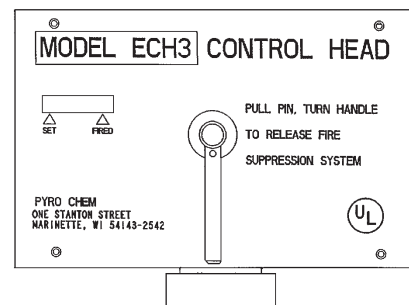

Figure 2-5. Electric Control Head.
- ▶ The Model ECH3 electric control head is an electrically operated control head which can be connected to the PCL-240/350/550 cylinder valve. This control head will support an electric thermal detection system, a remote mechanical pull station (Model RPS-M), and a mechanical or electric gas shutoff valve. It will not support a fusible link detection system. A miniature electric switch (Model MS-DPDT) is included. The Model ECH3 control head is available in both 120 VAC (Model ECH3-120) and 24 VDC (Model ECH3-24). It is equipped with a local manual control handle that allows for mechanical system actuation. Operation of the local manual control requires removing the pull pin and rotating the handle clockwise. The Model ECH3 control head can actuate a maximum of three (3) cylinders. See **Figure 2-5**.